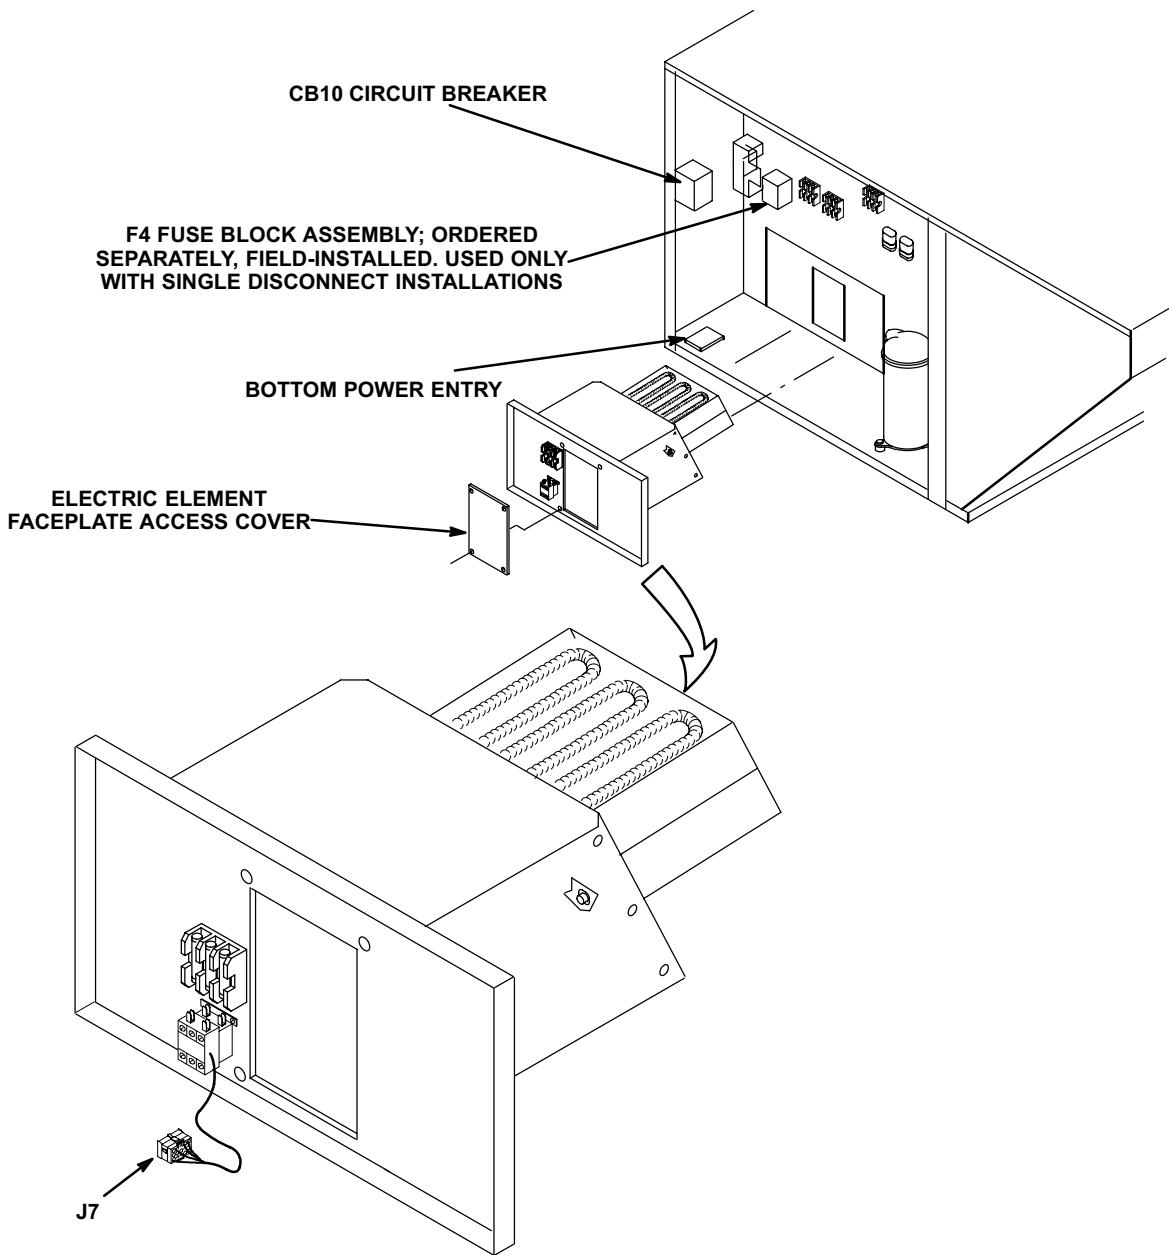

FIGURE 1
- 3- Insert electric element heat assembly into rectangular vestibule opening and secure assembly using screws provided. See figure 1.
Install fuse block assembly (ordered separately) using screws provided. See figure 1 for location.